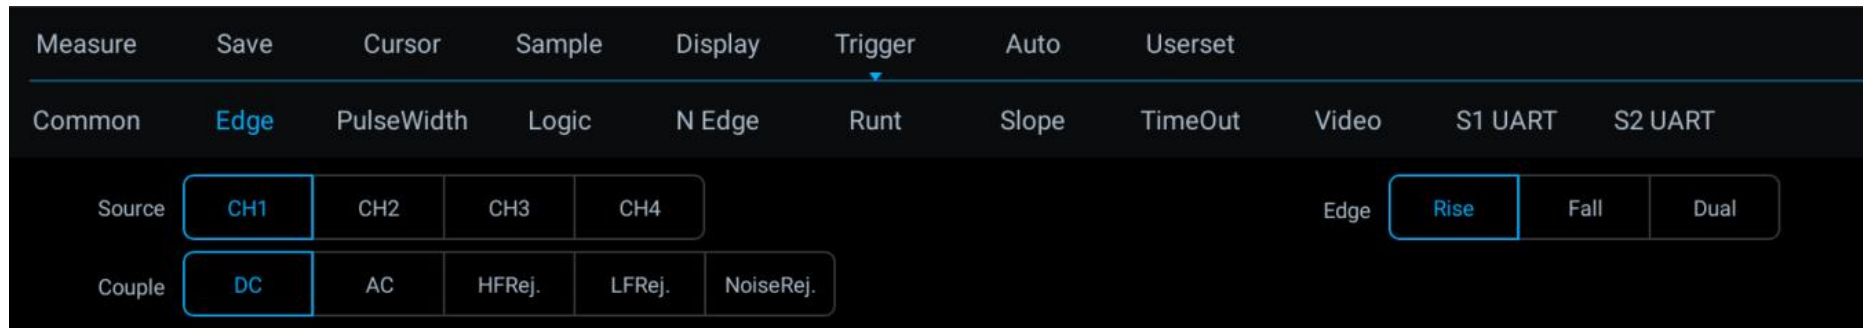

Figure 7-12 Edge Trigger Setting Menu
- 1) Tap “Trigger” on the main menu to open the trigger menu, select edge trigger in the trigger type, and set edge trigger as follows, as shown in Figure 7-12: